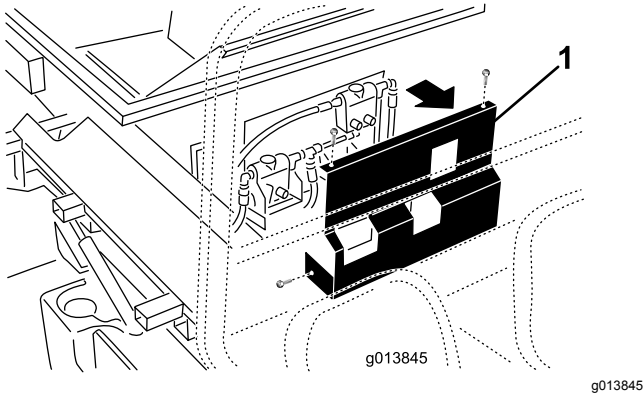

Figure 13
39. On the SH version, model 44701, remove the fasteners securing the cover to the front of the ProPass and set the cover aside (Figure 13).